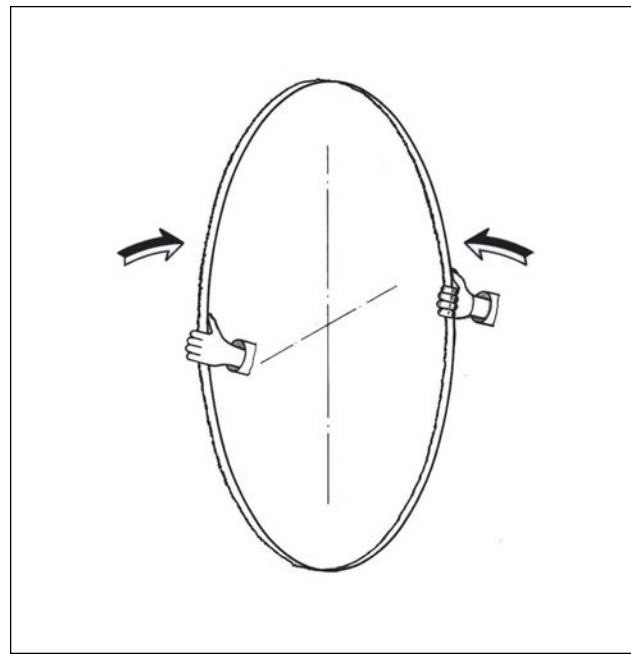

Figure 14. Holding Saw Blade
10. Hold saw blade (see **Figure 14**) with both hands. Wind the blade into a roll and fasten with a length of wire.